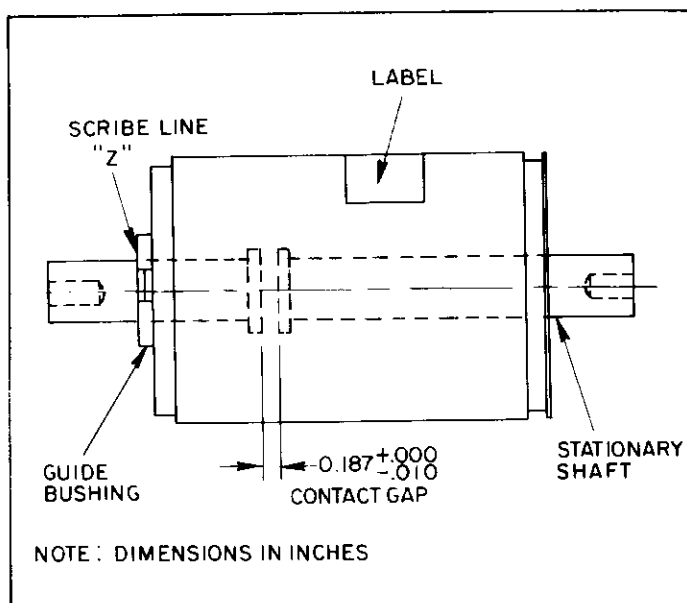

Figure 12. Contact gap adjustment of the vacuum interrupter
- (1) Starting with the interrupter in the center phase, install one nut "E" on insulator shaft. Tighten the nut until the scribe line "Z" (Figure 12) is in line with the edge of the guide bushing.
- (2) While holding nut "E" in place install a second nut "E" and tighten it against the first nut "E". **Special care must be exercised during this step to prevent the application of rotational forces to the movable shaft of the vacuum interrupter.**
- (3) Once adjustment of the center phase interrupter is complete move to each of the outer phases in